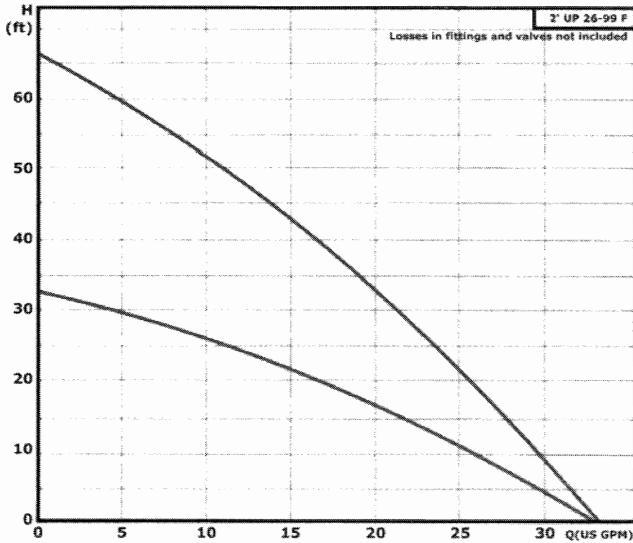
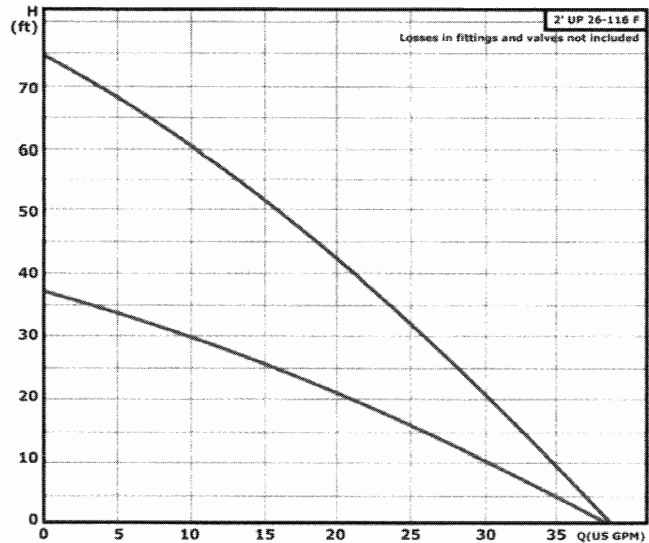

Fig. 1. 26-99 Pump Center Flow Chart
Fig. 2. 26-116 Pump Center Flow Chart
Before installing the QT Flow Center, check the flow charts and loop table against your system flow and pressure drop characteristics to be sure you have selected the correct flow center for your system. A one-pump QT Flow Center can accommodate flow for 3½-ton units and smaller. (See Fig. 1) A two-pump QT Flow Center can accommodate flow for 3½-ton through 6-ton units. (See Fig. 2) To ensure adequate flow, the selection must be made based on your specific system design.
1. By using the flow meter tool, monitor the gallons per minute (gpm) being pumped through the entire system. If the flow is not correct, double check that the proper Flow Center has been selected for the application. If the pumping curves from Fig. 1 and 2, confirm that the Flow Center is correct, then there is air in the system preventing full flow throughout the Flow Center and you must purge the system again. Any remaining air will normally be eliminated over a 24-hour period.